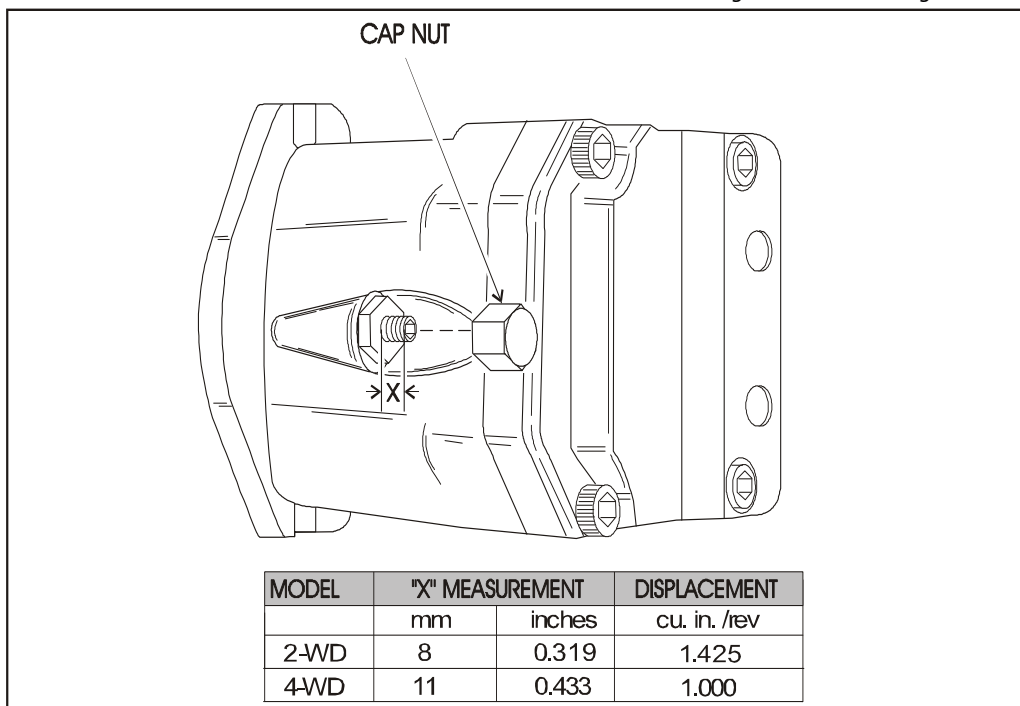

Figure 3-9. Drive Motor Adjustment (Prior to S/N 0300083332)
3. Measure from top of jam nut to the end of adjustment screw. Refer to Figure 3-9., Drive Motor Adjustment (Prior to S/N 0300083332).